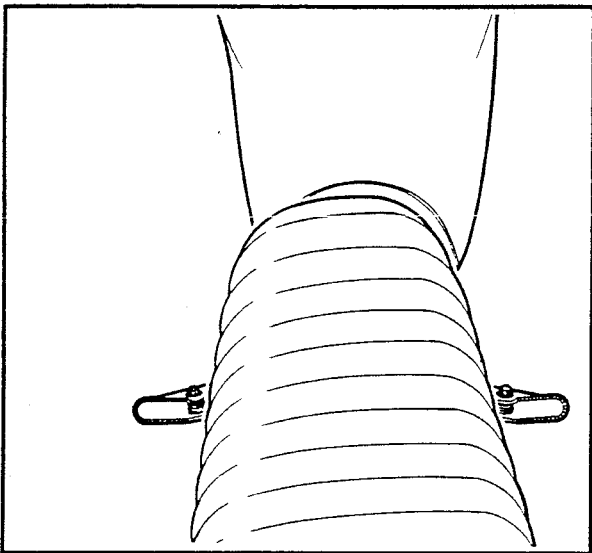

Figure 5-35. Improperly Installed Seat
2. See Figure 5-35. When replacing, be sure the seat sits squarely on the machine and is not skewed.